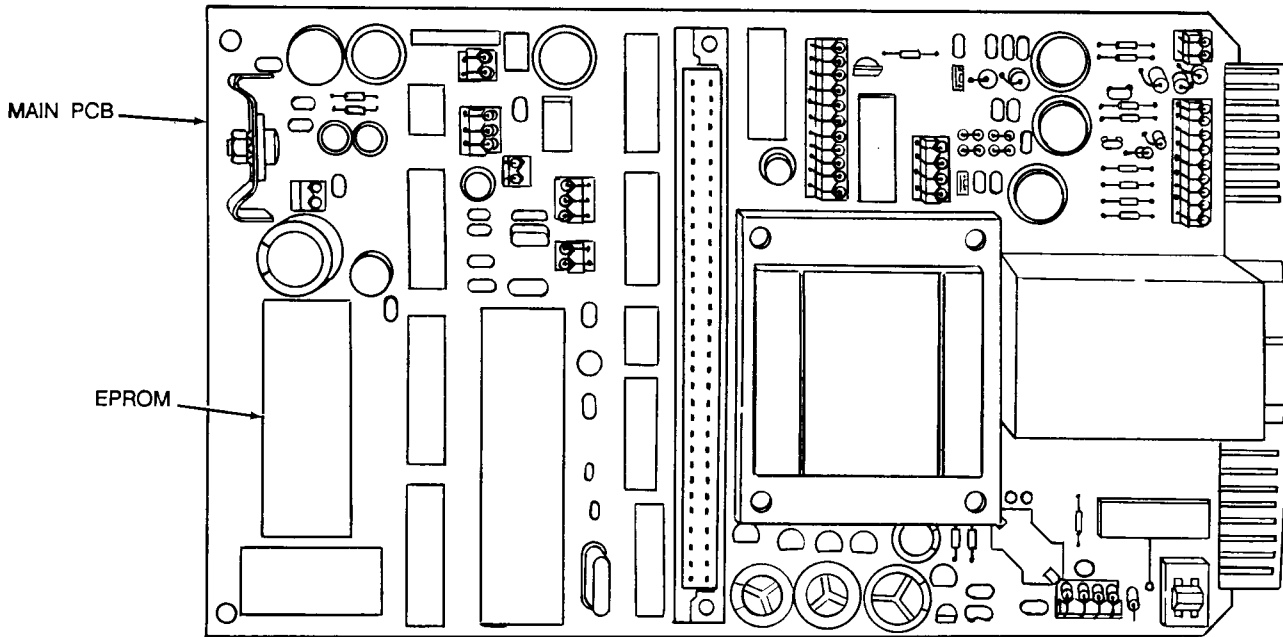

Figure 3-2. Main PCB (Model 218A) EPROM Replacement
- c. On the Main PCB, Figure 3-2, locate and remove old EPROM.